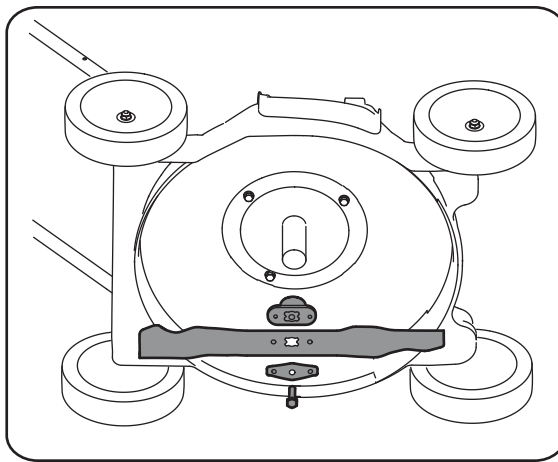

Figure 6-2
3. Remove the bolt and the blade bell support which hold the blade and the blade adapter to the engine crankshaft. See Figure 6-2.
9. Install the blade adapter on the crankshaft with the "star" away from the engine. See Figure 6-2. Place the blade with the side marked "bottom" (or with part number) facing away from the adapter. Align the blade bell support over the blade with the tabs in the holes of the blade and insert the hex bolt.